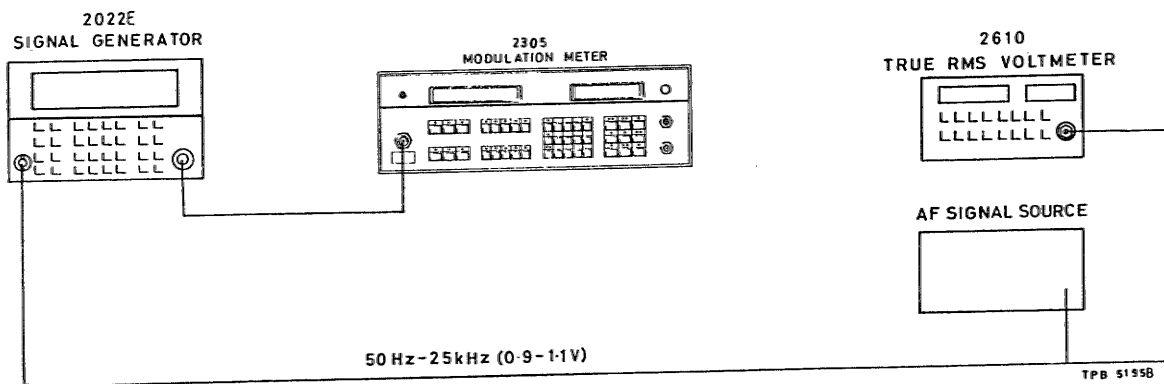

Fig. 5-8 Test gear arrangement to check external modulation
(1) Because AM, FM and Φ M external modulation use a common circuit configuration, checking need only be carried out with one type of modulation input. Connect the test equipment as shown in Fig. 5-8 and set the 2022E controls as follows :
13. (1) Connect test equipment as shown in the Fig. 5-8. Maintain 2022E settings with the exception of the MOD ALC key. Press this to disable the ALC (adjacent LED should be extinguished).